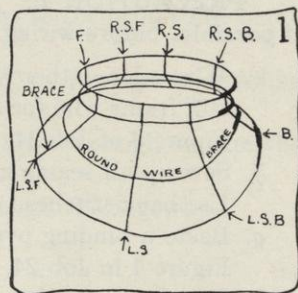

FIG. 1.
- Measure your headsize or that of the person for whom the brim is being made (see Figure 1 in Job 1, page 3), by placing the tape measure around where the hat is to rest.